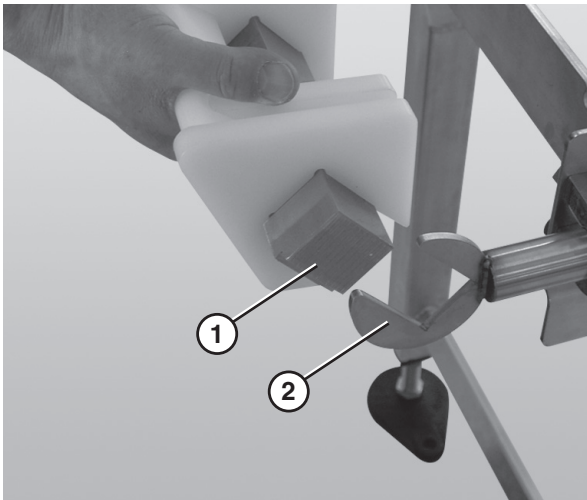

Figure 28
4. Attach the nose bar transfer post (Figure 28, item 1) to the nose bar idler shaft hands (Figure 28, item 2).